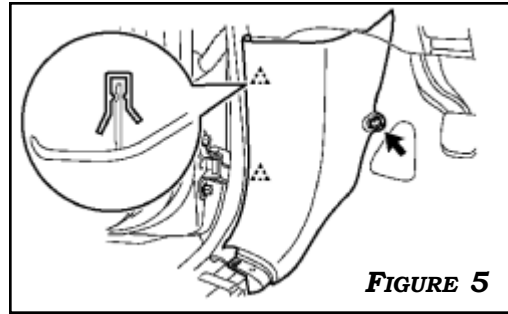

FIGURE 5
4. RELEASE THE 2 CLIPS AND REMOVE THE DRIVER SIDE KICK PANEL. **FIGURE 5**